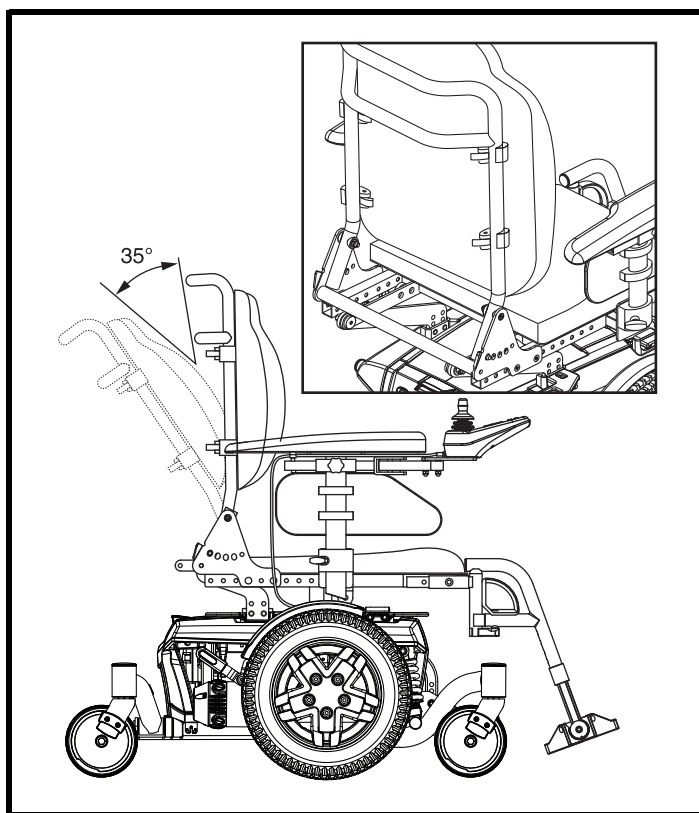

Figure 11. Manual Recline Seatback Adjustment
1. Pull the adjustment strap on the bottom portion of the seatback. **See figure 11.**